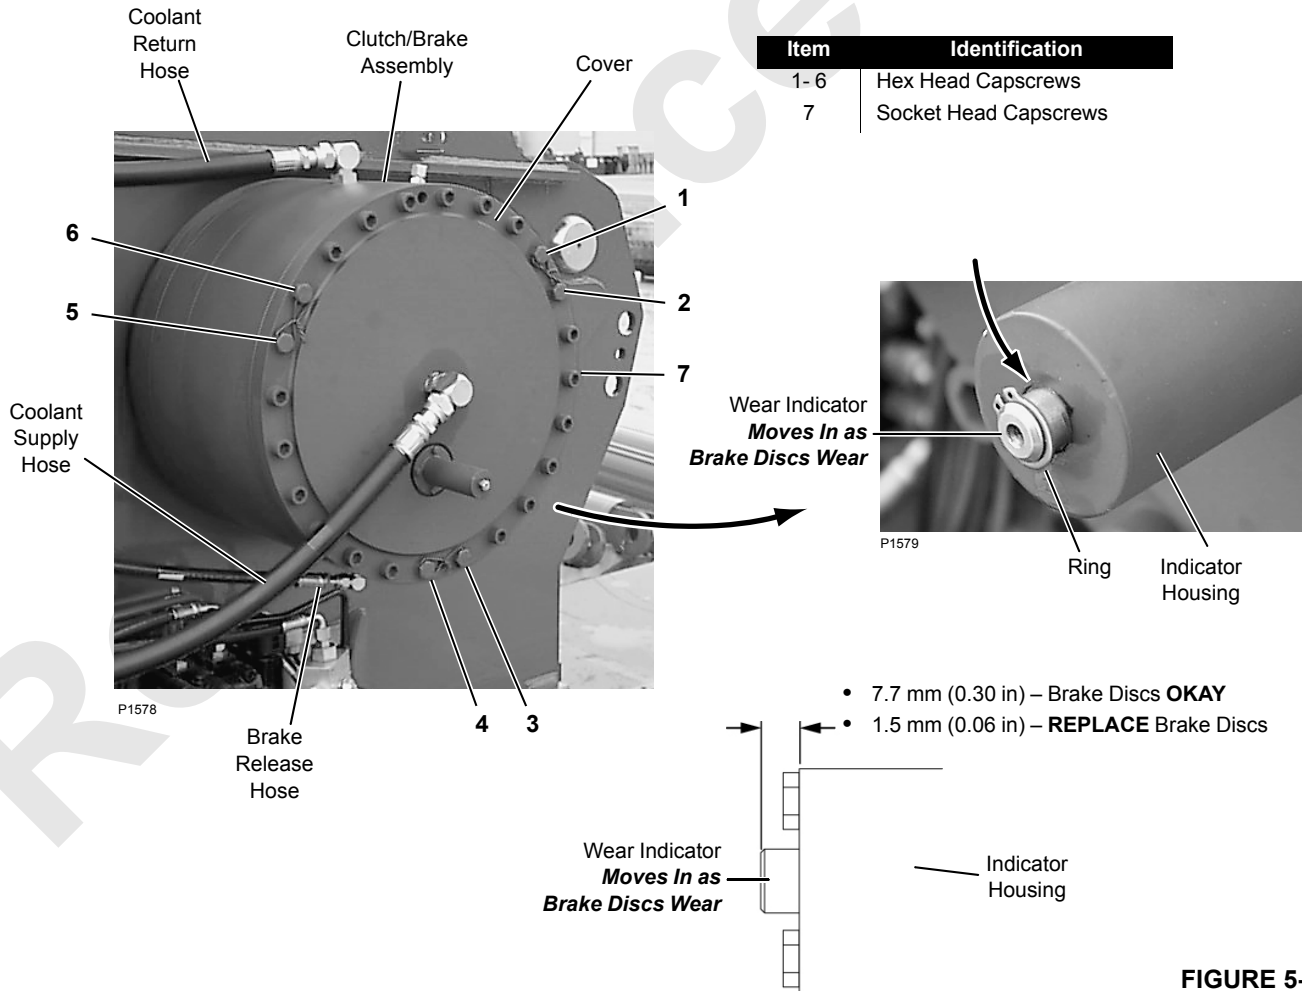

FIGURE 5-1
Either or both load drums can be equipped with a free fall clutch/brake as shown in Figure 5-1.
Replace brake discs when indicated in Figure 5-1.
See Figure 5-1 for the following procedure.
- With brake applied, check distance between ring on wear indicator and edge of indicator housing. It should be approximately 9/32 in (7 mm) as shown in Figure 5-1.